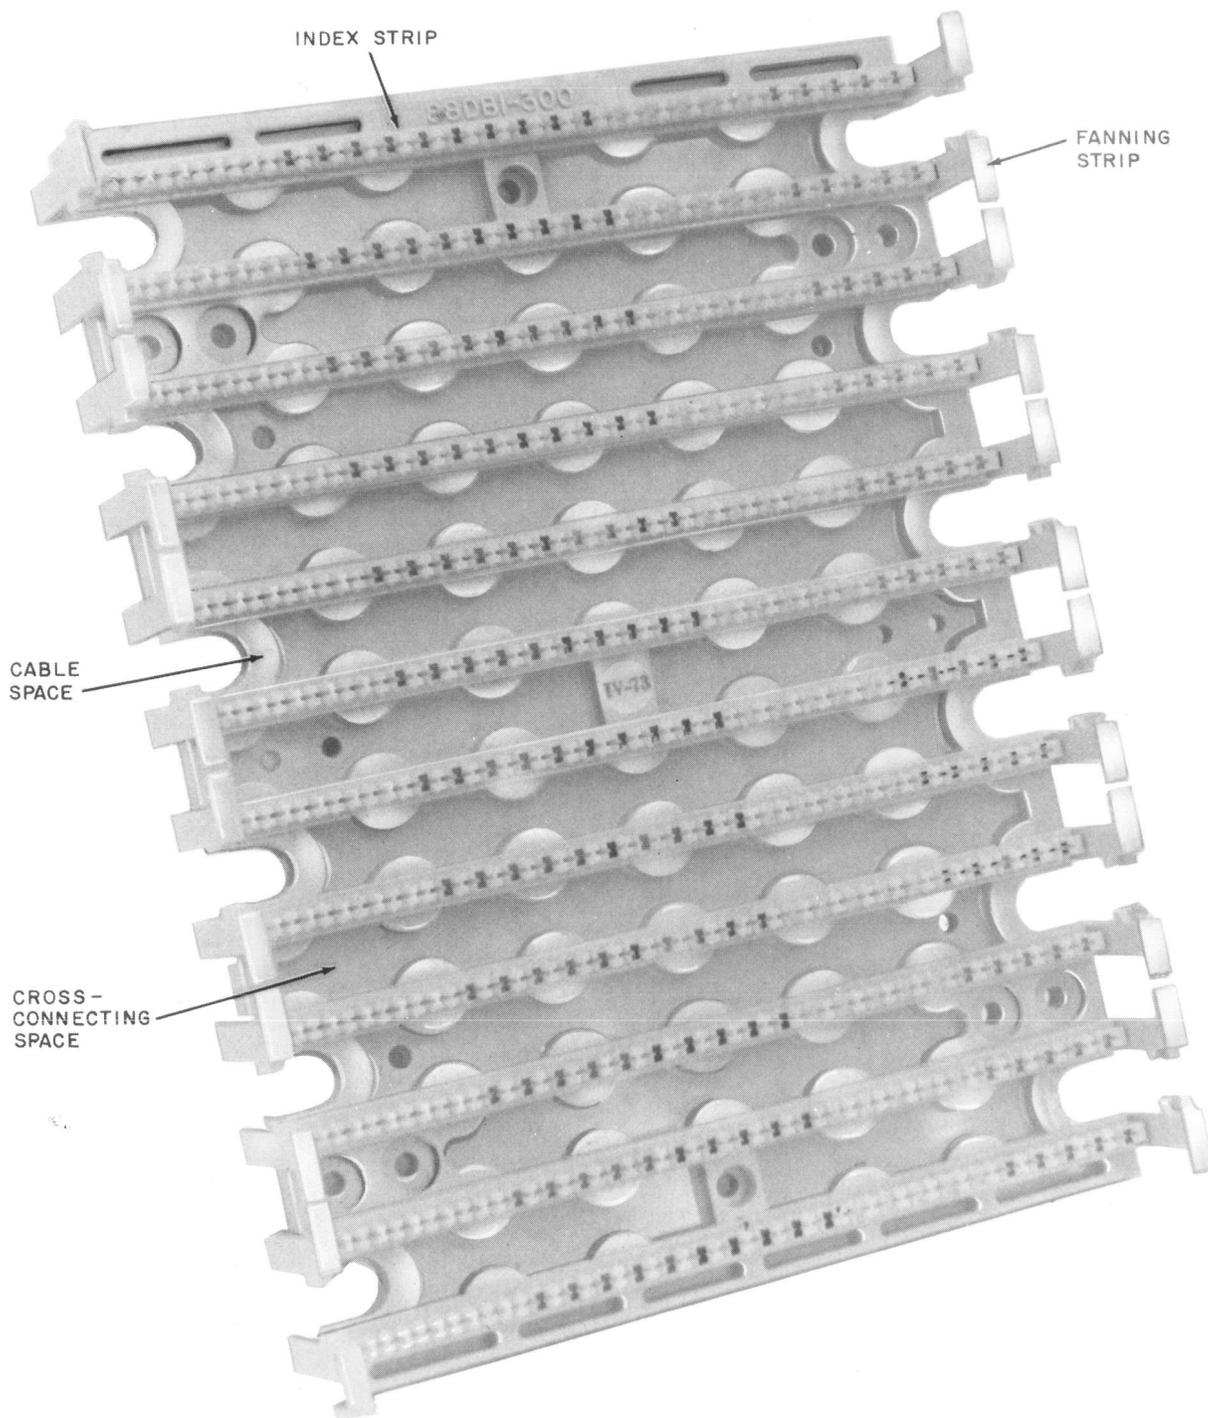

Fig. 15—Wiring Block
7.02 Before continuing, it is advisable to become familiar with the various parts of the wiring block shown in Fig. 15.